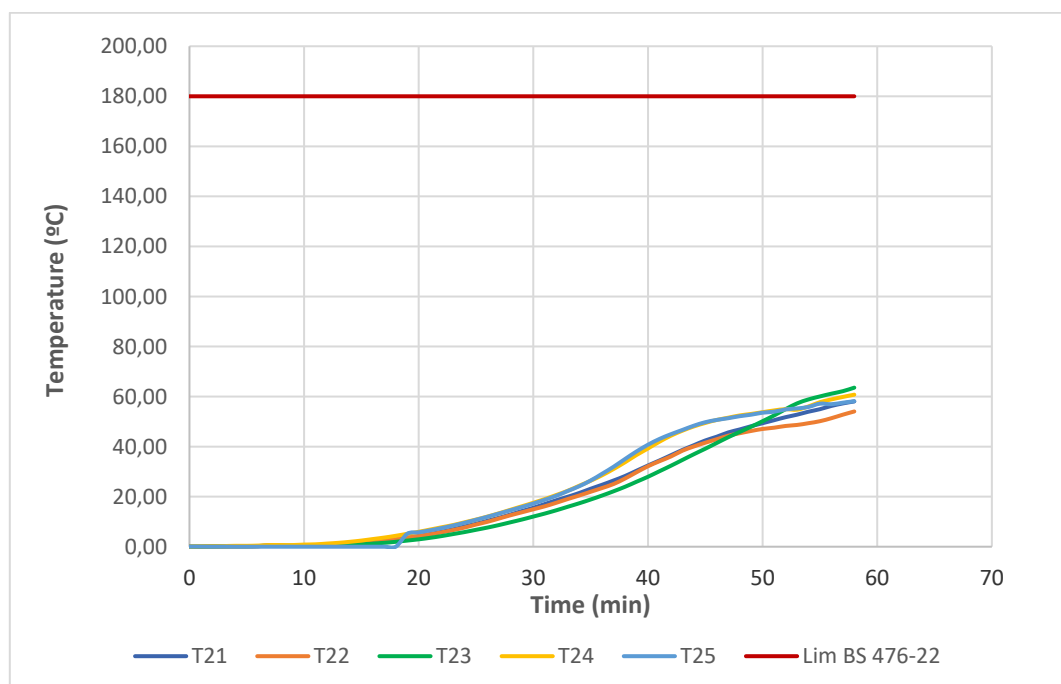

FIGURE 7
- 6.5 Figure 7 shows the temperatures of the individual thermocouples placed on the unexposed side to fire of sample 7521-3.